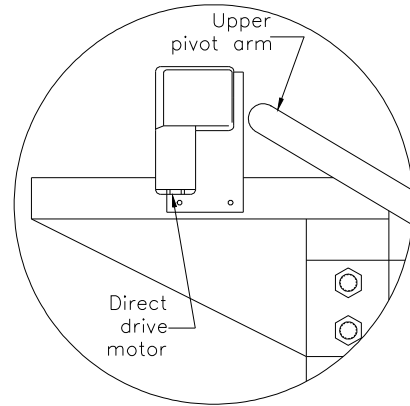

FIGURE 4
- 2) Slide one of the upper pivot arms into a lower arm. Adjust the arm length until the corner rests on the desired landing point at the back of the box and at the head assembly (See figure 4). If the upper arm is too long, cut both upper arms to allow at least 2 feet of upper pivot arm sticking into the lower pivot arm.